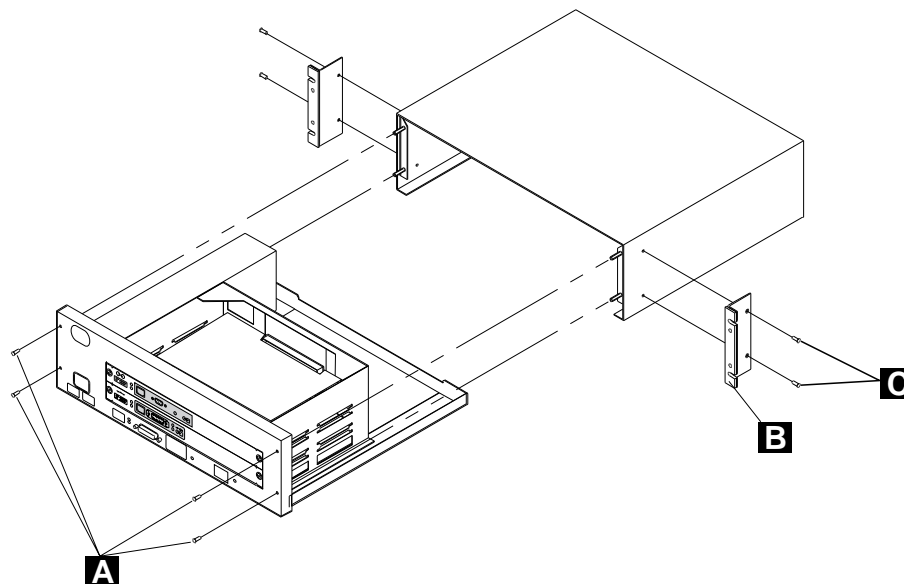

Figure 2-22. Placing the Ethernet Bridge in a Controller Expansion
- b. ____ Attach the rack-mounting brackets using the four short screws. See Figure 2-22.
- 2) ____ Remove the four retaining screws **A** on the front of the ethernet bridge. See Figure 2-22.
- g. ____ If you have removed the chassis (the inner power supply and planar board combination), slide it back into the cover and replace the four retaining screws, which you removed earlier. See Figure 2-22 on page 2-19.